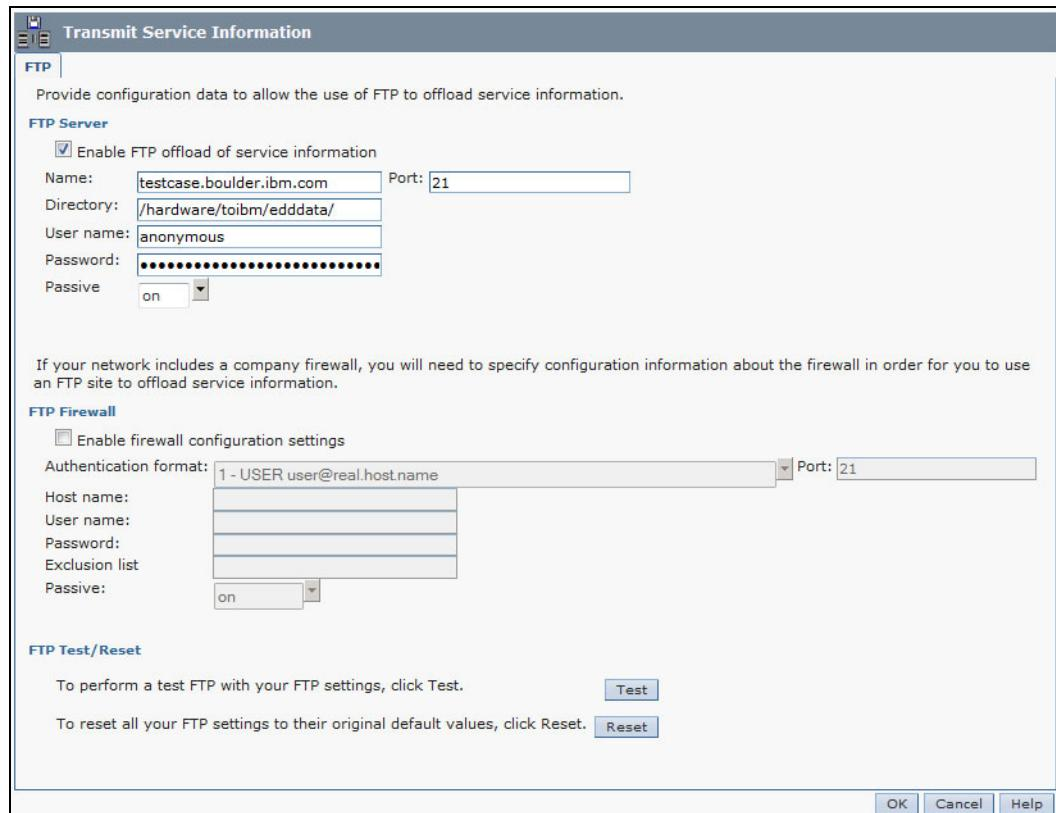

Figure 6-9 Transmit Service Information
The Transmit Service Information section is displayed (Figure 6-9 on page 432).
**Tabs:** When Figure 6-9 was created for this book, FTP was the only available tab.